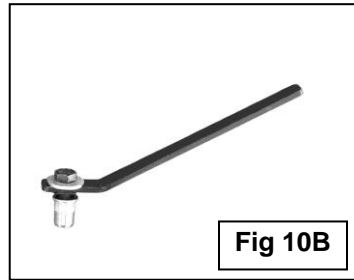

Fig 10B
11. Assemble the Threaded Insert installation tool as pictured in **Figure 10B**. Hold the handle and push the insert into the drilled hole in the pinch weld. **NOTE:** Insert must fit snug in hole. If necessary, use a small hammer to carefully tap the insert into the hole until the rim on the insert is flush against the pinch weld. Firmly hold the tool handle and tighten the hex bolt in the tool to expand the insert in the hole. Continue until threads are flush with the top of the insert, **(Figure 10C)**. Remove the tool and hardware. Bolt the Support Bracket to the threaded insert with (1) 8mm x 30mm Hex Bolt, (1) 8mm Flat Washer and (1) 8mm Lock Washer, **(Figure 11)**. Tighten hardware at this time.
Use the assembled tool (Fig 10B) to hold the Insert fully in place. Tighten hex bolt in Insert until threads are pulled up to the top (rim) of the insert